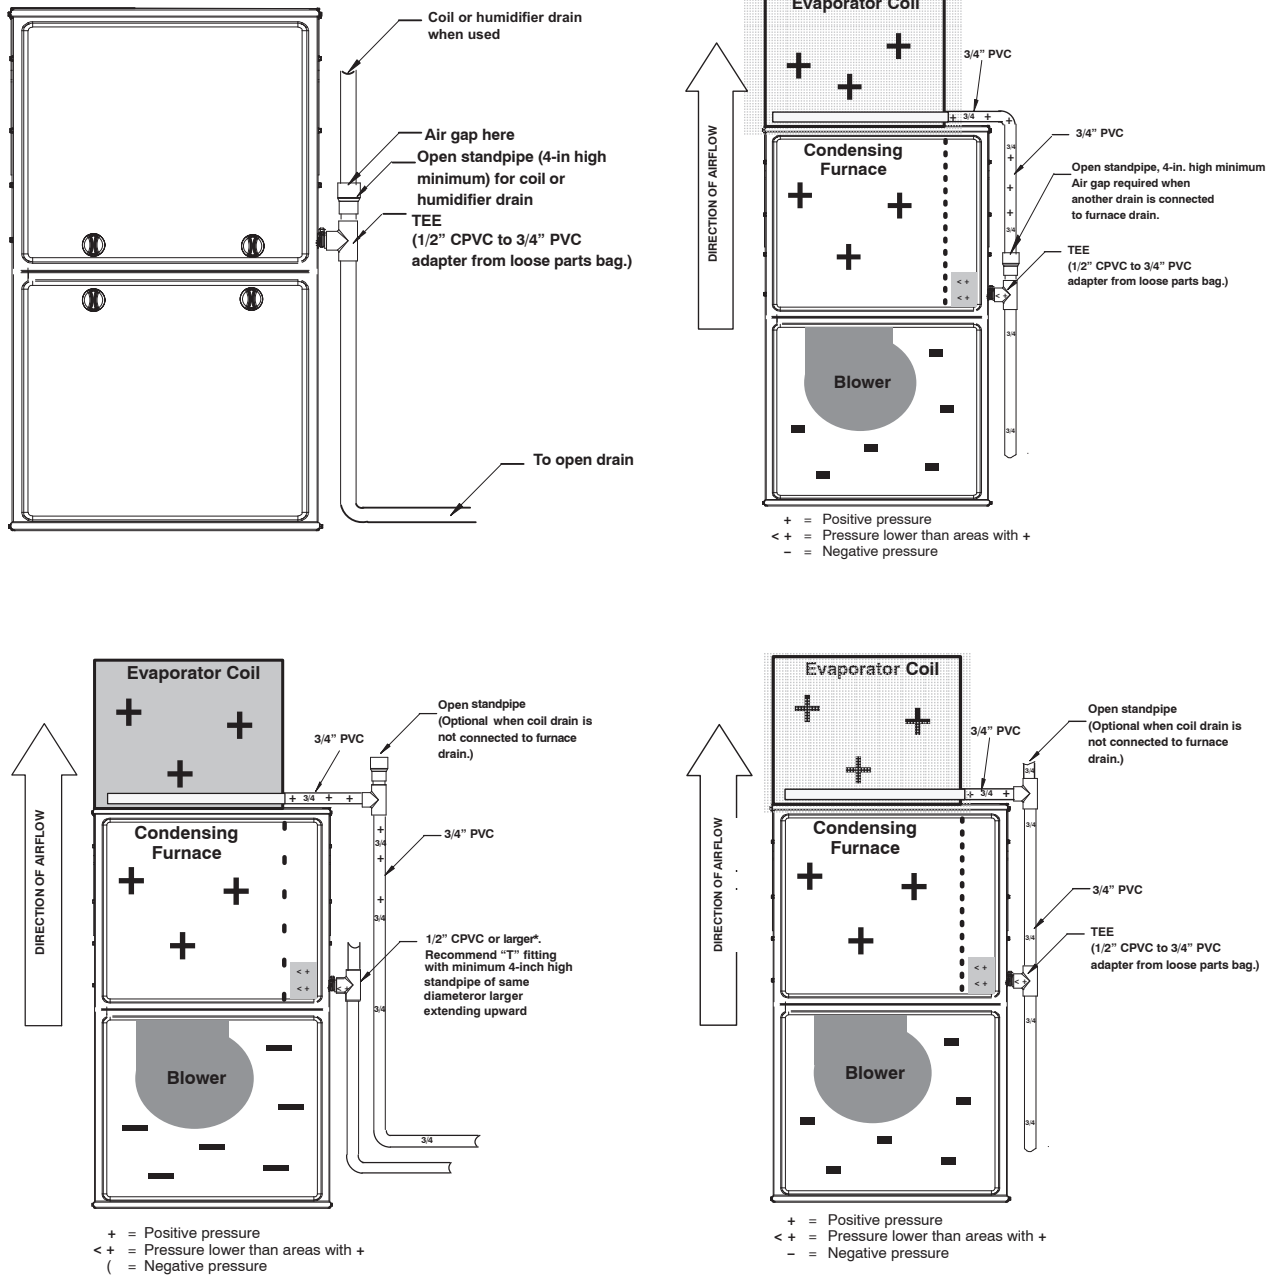

Fig. 18 - Example of Field Drain Attachment
- All condensate piping is at least 3/4-in. PVC and there is a relief tee at the top of condensate drain piping as shown in Fig. 18.